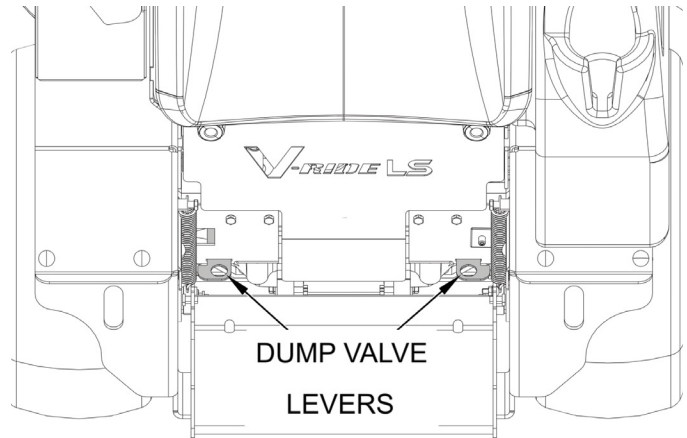

Figure 4-1. Dump Valve Location
- 15. Dump Valve Controls (Figure 4-1):** Located on the left and right side of the foot guard plate and used to "free-wheel" the mower. Pushing the levers in allows the machine to move under hydraulic power. Pulling the levers out allows the machine to be moved by hand (free-wheeling). See Figure 4-1.